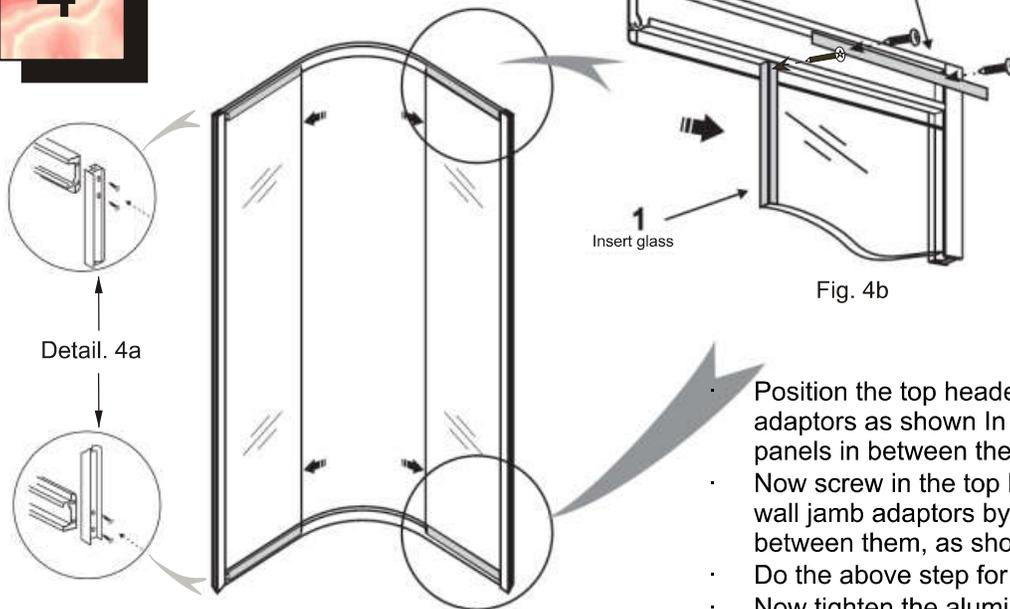

Figure 4
- Position the top header, the bottom sill and wall jamb adaptors as shown in figure 4. Insert the fixed glass panels in between the adaptors and the sills.